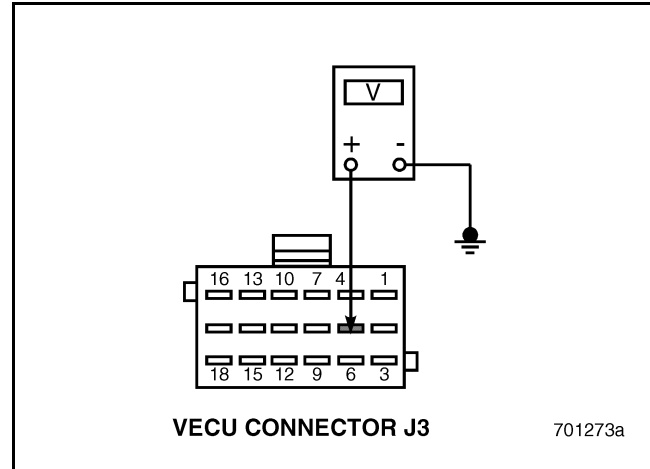

Figure 545
2. Disconnect the Throttle Position (TP) Sensor.
5. Measure the voltage between VECU connector J3 pin 5 and a good ground (see Figure 545).